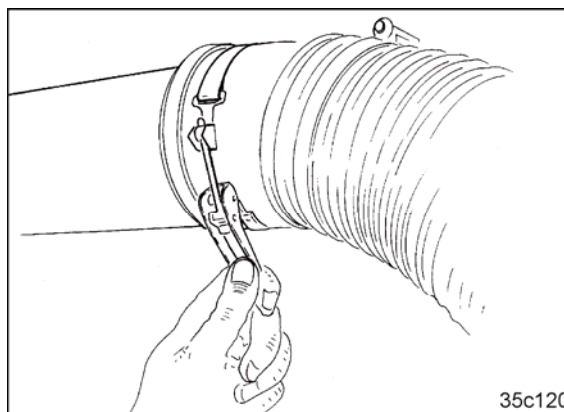

Fig. 35
12. Insert the flexible hose into the steel tube and secure with quick release fasteners (Fig. 35/1).